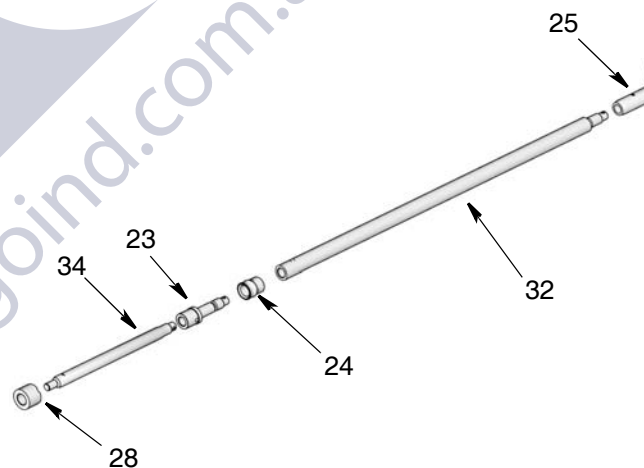

Fig. 8
10. Use a pick to remove gasket (30) from inside the flange (22).
11. Use a rubber hammer and small punch to drive out pin (8), holding together the piston rod (23) and the connection rod (32). Turn the piston rod (23) counter clockwise to loosen and remove it from the connection rod. Remove the piston seal (24) from the piston rod (Fig. 8).
14. Use a rubber hammer and small punch to drive out pin (8), holding together the connection rod (32) and displacement rod (25). Turn the connection rod (32) counter clockwise to loosen and remove it from the displacement rod (Fig. 8).